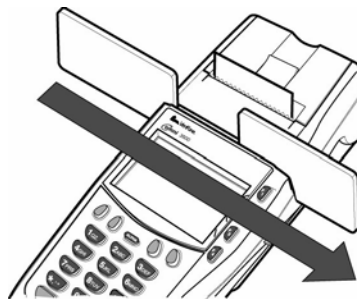

Figure 17 Using the Magnetic Card Reader
- 2 Swipe it through the reader from left-to-right, as shown in Figure 17.